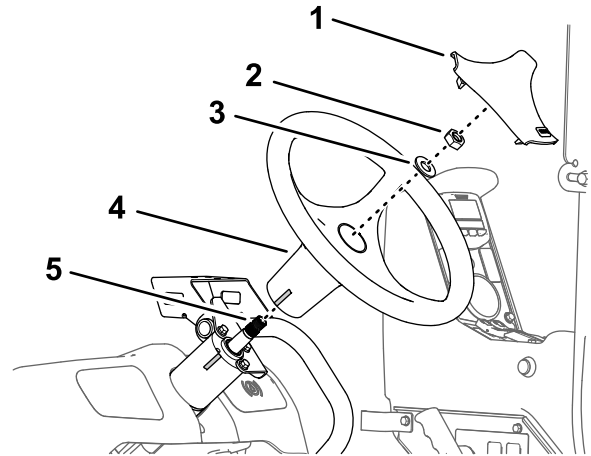

Figure 173
- Align the tape mark on the steering wheel to the tale mark on the housing of the steering valve (Figure 173).
- Assemble the steering wheel onto the shaft of the steering valve (Figure 173) with the washer (5/8 inch) and nut (5/8 inch) that you removed in step 3 of Removing the Steering Wheel \(page 80\).